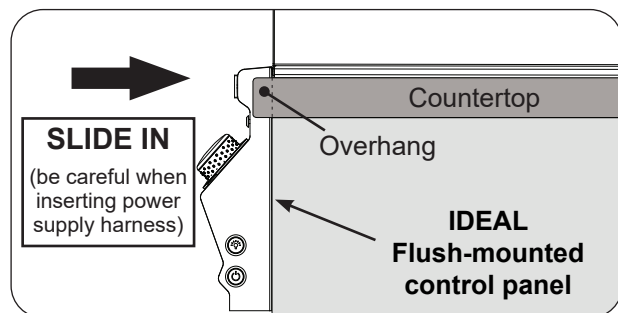

Fig. 27-4 Slide in unit (ensure flush)
- Ensure the unit fully slides in so that the control panel sits flush against the enclosure front wall. See the **COUNTERTOP OVERHANG** section in **ENCLOSURE REQUIREMENTS** for details (see Fig. 27-4).